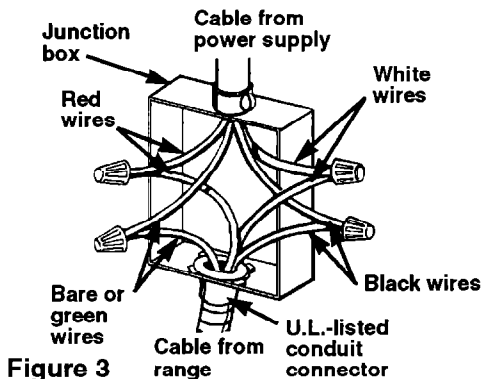

Figure 3
Four-wire power supply cord must be used in a mobile home installation. The appliance wiring will need to be revised. See "Electrical requirements," Figure 3, Panel B.
4. Connect the two black wires together; then the two red wires together. See Figure 3.